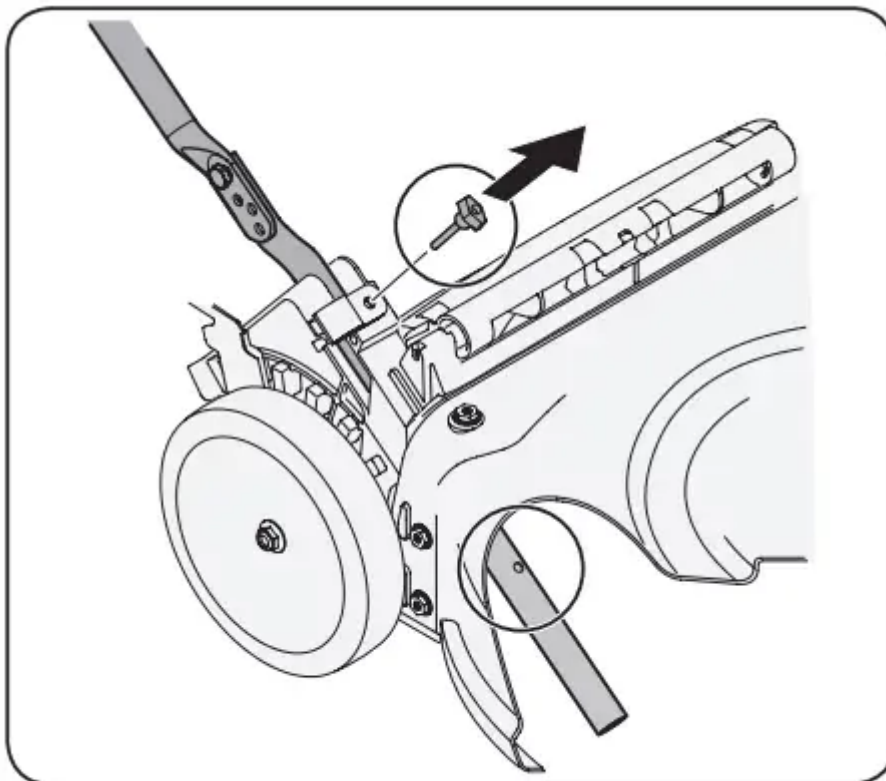
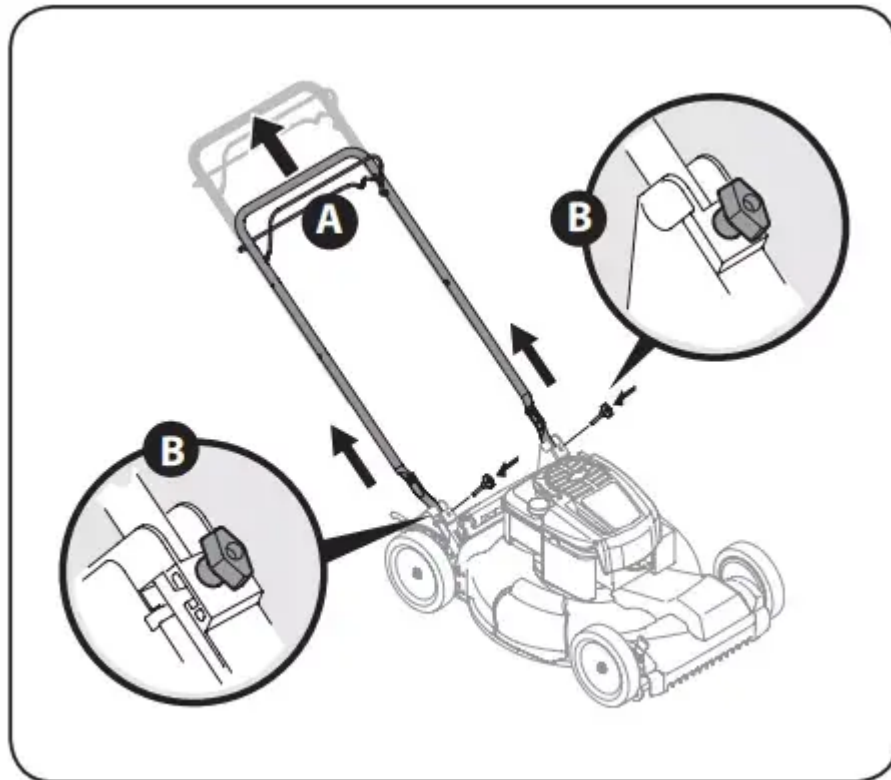

Figure 3-3
Figure 3-4
2. Remove the T-bolts from the handle brackets as shown in Fig. 3-3.
1. Pull upward on the handle until holes in lower handle (shown in Fig. 3-3 deck cutaway) line up with holes in handle bracket. See Fig. 3-4.
2. Insert the T-bolts removed earlier through the handle brackets and lower handle and tighten securely to secure the handle in place. See Fig. 3-4.